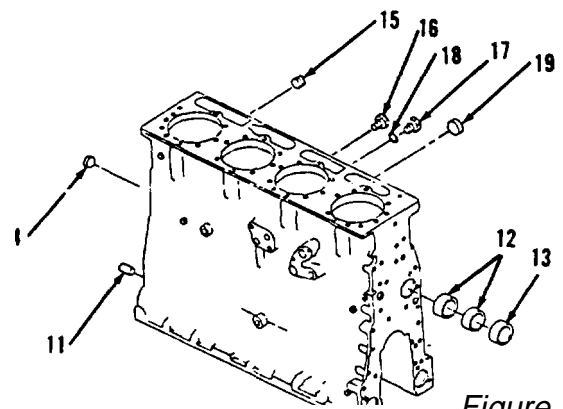
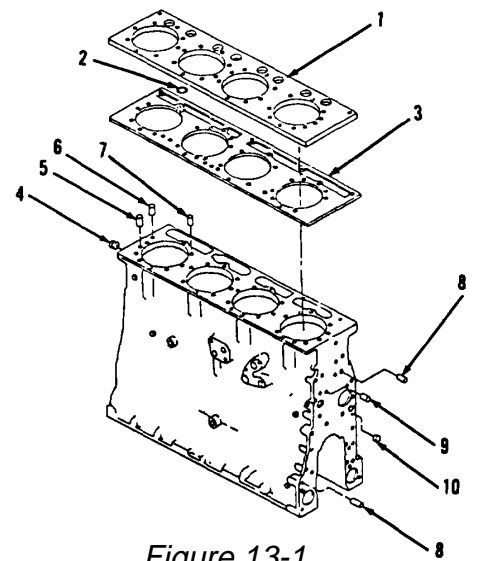

Figure 13-2.
Figure 13-1.
16. Install new cup plug (19, Figure 13-2).
17. Install new washer (18) and plugs (17 thru 14).
18. Using collet and camshaft bearing installation group, install bearing (13) and two bearings (12). Oil holes in bearings must match oil holes in cylinder block with cinch butt joint above horizontal center line. Front bearing must be 0.00 to 0.20 inch from front face. Center bearing must be 11.917 to 11.957 inches from front face. Rear bearing must be 23.794 to 23.834 inches from front face.
19. Install two dowels (11).
20. Install new cup plug (10), stud (9) and dowel (8, Figure 13-1).
21. Install dowels (7 and 6), pin (5) and plug (4).
22. Install new gasket (3), new preformed packing (2) and plate (1).